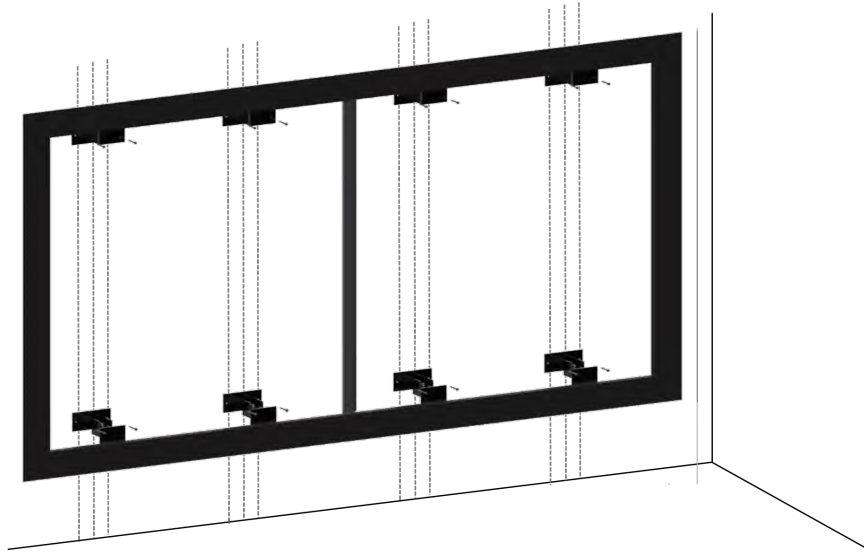

Figure 6: Mounting the frame with the Telescoping Mounts
5. Use the provided 2" screws or other appropriate fasteners to secure the Telescoping mounts to the wall studs (see Figure 6).